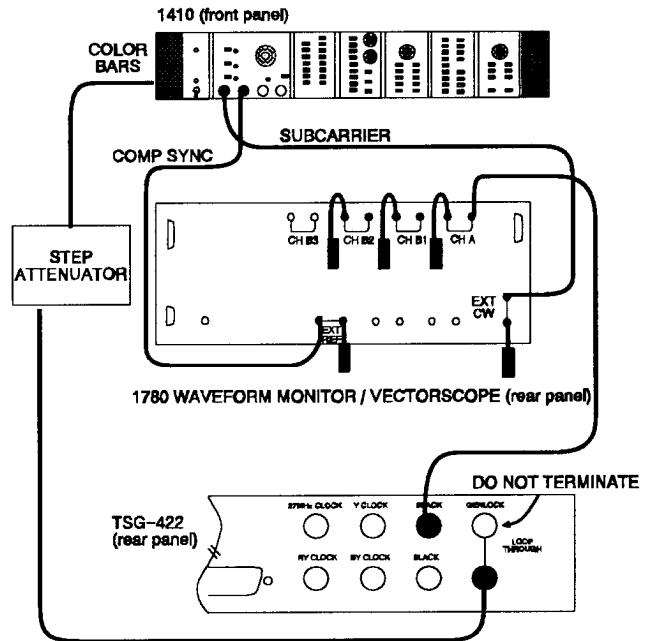

Fig. 5-4. Setup to check the 525/60 genlock.
- a. Connect the equipment as shown in Fig. 5-4.